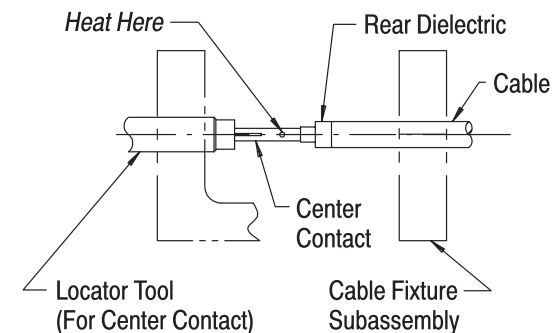

Figure 3
6. Place the center contact in the locator tool (for center contact). Heat the center contact, and slide it onto the center conductor until it rests firmly against the rear dielectric. See Figure 3.